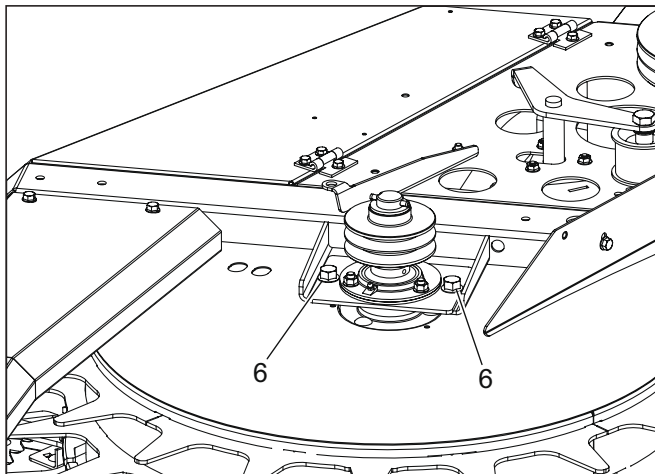

Figure 56 Drum support bearing bolts
6. Center the drum fingers between the scraper slots by moving the drum bearing. Loosen bolts (item 6, figure 56) to move the bearing,